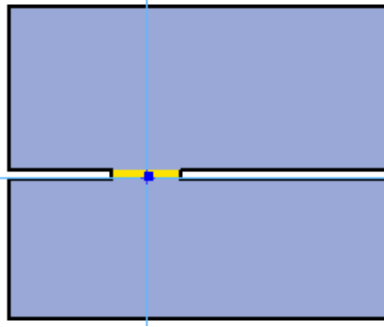

Figure 94. Click inside the gap
3. Once the appropriate parameters have been entered, move the cursor over the desired doorway (Figure 94). A door preview will be displayed. If it doesn't, adjust the search parameters in the property panel and try again.